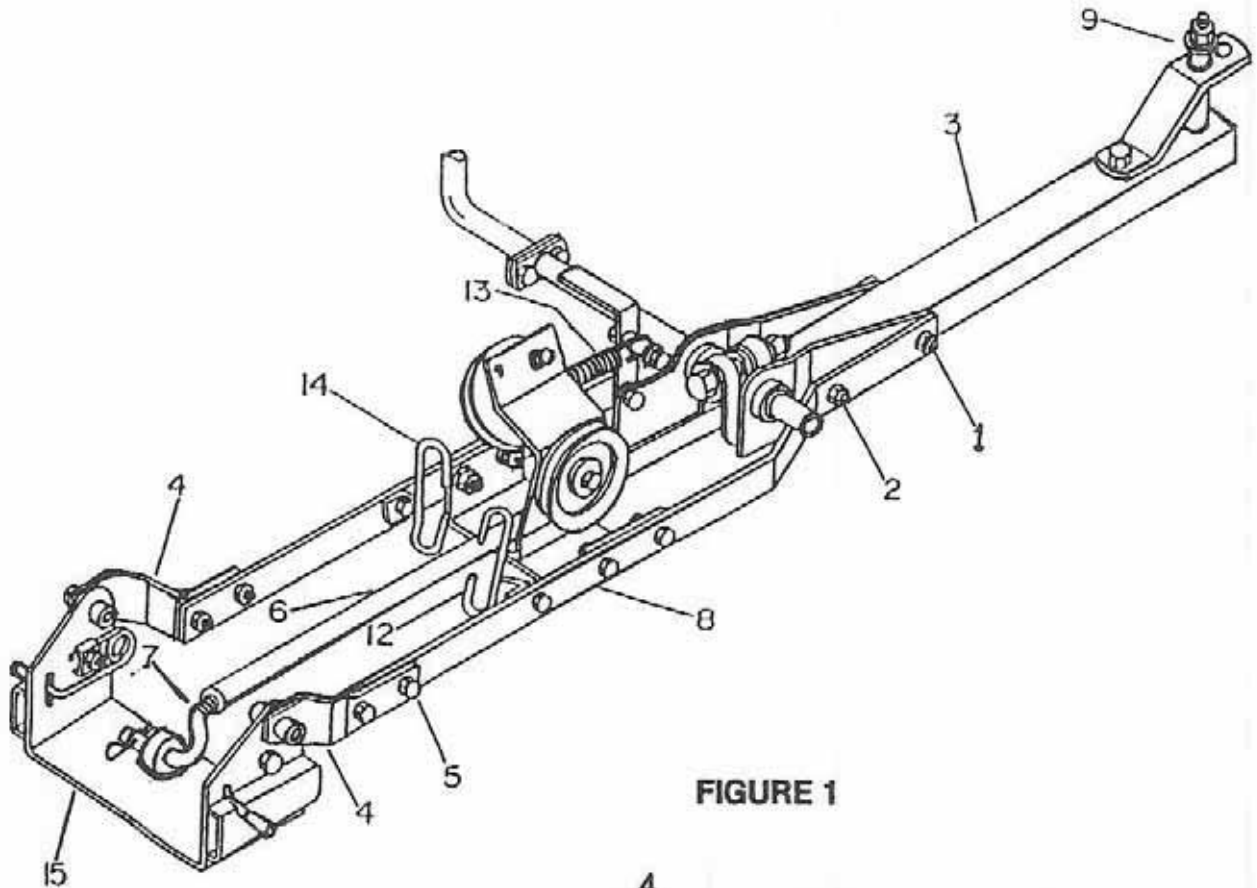
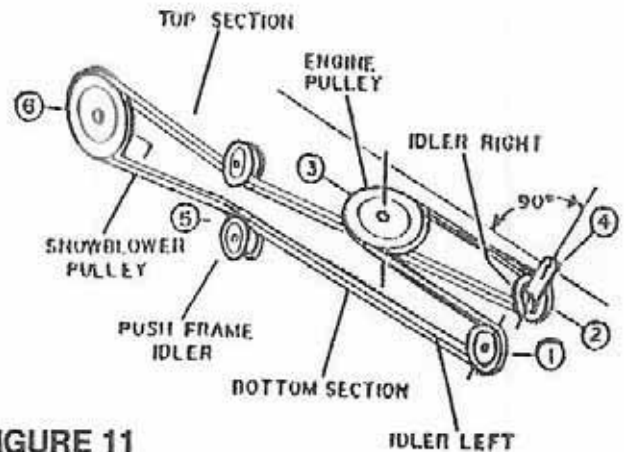
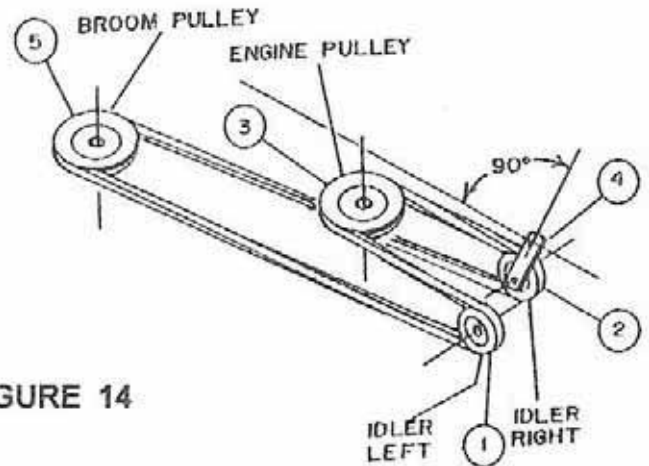

FIGURE 1
FIGURE 11
FIGURE 14
- a) Unfold the subframe by loosening the two bolts (fig. 1, item 2), place the channel (item 3) in straight position and install two  $7/16 \times 1\ 1/4$ " bolts (item 1), locks and nuts. Do not tighten yet. Extend the front portion (item 4) by loosening the bolts (item 5) and insert two bolts  $3/8 \times 1$ " with nuts. Secure the four bolts loosely. Adjust the overall length of push arm on garden tractor to  $32\ 3/16$ ", and on the lawn tractor to 32" by screwing the adjusting rod (item 7). Place the adjusting rod on the support pivot hitch hole (item 15) and secure with 3mm hair pin.
**IMPORTANT:** Place the subframe on a flat surface to be sure the channel (fig. 1, item 3) and the under portion of the front attaching bracket (item 4) are in line with the flat bars. Tighten all bolts securely.
- f) Route the snowblower drive belt in the subframe inside left belt guide (fig. 1, item 12), around the "V" idler pulley (fig. 11, item 1), inside the right belt guide (fig. 1, item 14), around "V" idler pulley (fig. 11, item 2) and around the tractor drive pulley (fig. 11, item 3).
**NOTE:** Be careful the left V-belt section between the two pulleys (fig. 11, item 6 and 1) is not twisted.
- d) Route the broom drive belt in the subframe, inside left belt guide (fig. 1, item 12), around the "V" idler pulley (fig. 14, item 1) inside the right belt guide (fig. 1, item 14), around "v" idler pulley (fig. 14, item 2) and around the tractor drive pulley (fig. 14, item 3).
**NOTE:** Be careful the left V-belt section between the two pulleys (fig. 14 item 1 & 5) is not twisted.
- a) Belt Adjustment with Manual PTO clutch: When the clutch mechanism is in engaged position, the pulley lever (fig. 11 or 14, item 4) must be approximately 90° with the subframe. The spring should be lengthened between 3/4" to 7/8". If it is not like this, adjust the belt tension, using the left adjustable idler pulley (item 1). Disengage the clutch, loosen the middle bolt, slide the idler in the slot and retighten the bolt. Engage the manual PTO clutch and recheck to be sure the spring length is between 3/4" to 7/8". The lever pulley angle should be appx. 90° with subframe.